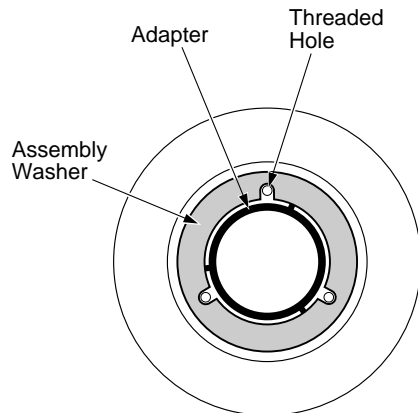

Figure 3c - Positioning Assembly Washer Slots over Threaded Holes
3. Position the slots in the assembly washer over the threaded holes in the adapter as shown in Figure 3c.